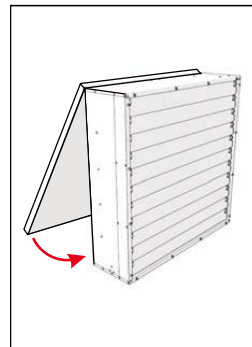

Fig.12
- Single phase models must be connected as shown in Figure 12.